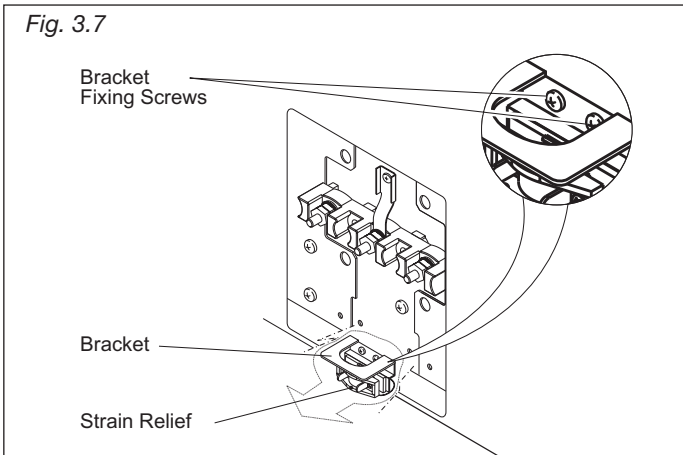

Fig. 3.8
3. Mount the **Conduit Bracket** (supplied with the range in a separate kit - make sure you are using the correct **Conduit Bracket** as indicated in Figure 3.8) inside the **Opening For Electrical Connection** by screwing the 2 **Fixing Screws** (as indicated in Figure 3.8).